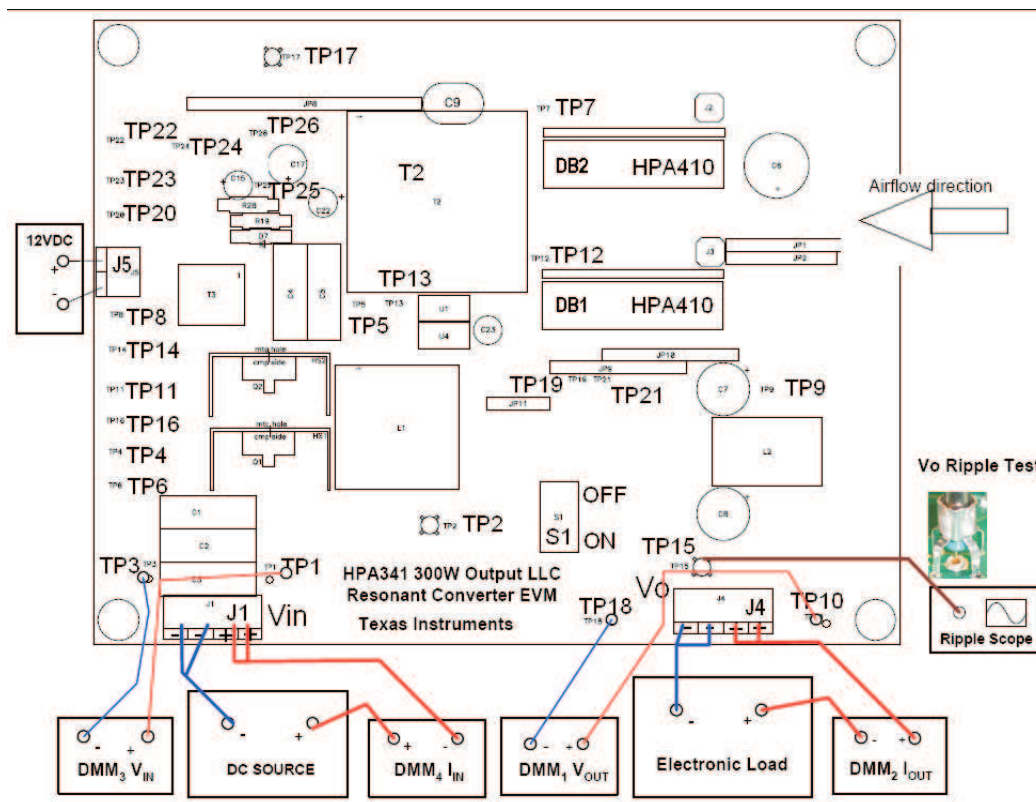

Figure 3. Recommended Test Set Up
**Output Load:** A programmable electronic load is recommended, configurable for constant current mode and capable of sinking 0 ADC to 25 ADC from 12 VDC. The output voltage can be monitored by connecting a DC voltmeter, DMM1 to sense pins (TP10 and TP18) shown in Figure 3. A DC current meter, DMM2, may be inserted in series with the electronic load for accurate output current measurements. Similarly, the input voltage can be monitored by connecting a DC voltage meter to sense pins (TP1 and TP3). The input current can be monitored by a DC current meter too. These are shown in Figure 3.
- b. Prior to connecting the DC input source, limit the source current 1.0 A maximum. Make sure the DC source is initially set at 390 VDC prior to turning on. Connect the DC source to the EVM as shown in Figure 3.
- c. Connect the current meters DMM2 and DMM4 as shown in Figure 3.
- d. Connect the volt meter DMM1 and DMM3 as shown in Figure 3.
- e. For operation with a load, connect the electronic load to the EVM as shown in Figure 3. Set the LOAD to constant current mode with initial value of 1.0 A. Note: if the load less than 1.0 A, the UCC25600 may be in burst operation and the EVM output voltage may start hiccup.
Setup the EVM with equipment as shown in Figure 3 and following the test set up directions described in Section 5.
Along with the measurement of line and load regulation, the output voltage ripple can be measured at the same time. The method of tip-and-barrel should be used for the output voltage ripple measurement. The EVM provides such type of test point to facilitate the measurement for the type of oscilloscopes from Tektronix as shown in Figure 3. Reference test results of the output voltage ripple can be found in Section 7.